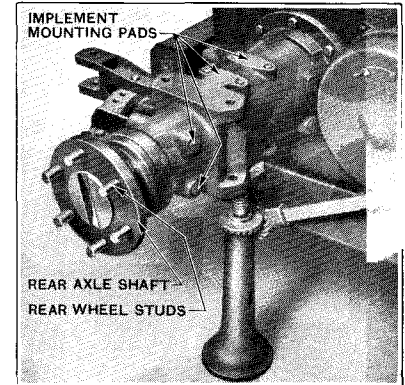

Figure 42
**To remove the rear wheel,** apply the handbrake, place the jack in position beneath the rear axle housing, see Fig. 42, but before raising the wheel fully from the ground, loosen the six wheel nuts with the spanner provided in the tool kit. Raise the wheel fully and then unscrew the nuts when the wheel can be removed from the studs. Take care not to damage the threads by allowing the weight of the wheel to be taken on the studs.